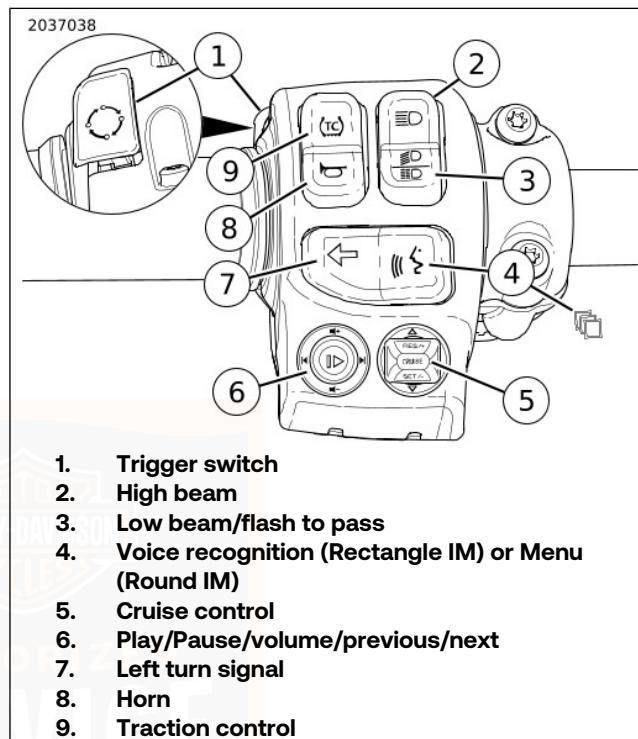

Figure 33. Left Hand Control Module
See Figure 33. **Vehicle off:** Press the trigger switch (1) to display the accumulated mileage on the IM. **Vehicle in accessory/ignition mode:** Press the trigger switch to cycle through the odometer functions. Refer to Table 41.
See Figure 33. Press the high beam switch (2) to activate the high beam. The (blue) high beam indicator lamp is lit when the high beam is on. Refer to Table 41.
Low beam: See Figure 33. Press the bottom of the low beam/flash to pass switch (3) to activate the low beam.
See Figure 33. The voice recognition switch (4) activates voice recognition features on a connected device (if supported). With a headset connected, press the voice command switch. Speak the desired command into the headset microphone.
See Figure 33. The menu switch (4) activates the scrolling menu to select settings, music, navigation and bike status.
See Figure 33. The CRUISE/SET/RESUME switch (5) automatically regulates the speed of the vehicle. See
See Figure 33. The Play/Pause/Volume/Previous/Next (6) five-way switch operates radio features.
Activate: See Figure 33. Press the left turn signal switch (7) to activate the left turn signal. Refer to Table 41.
See Figure 33. The horn is operated by pressing the horn switch (8). The horn can be activated for up to 10 seconds at a time. If the horn switch is held for a longer period, the horn automatically deactivates. Refer to Table 41.
See Figure 33. The traction control switch (9) activates and deactivates the traction control system. Refer to Table 41.